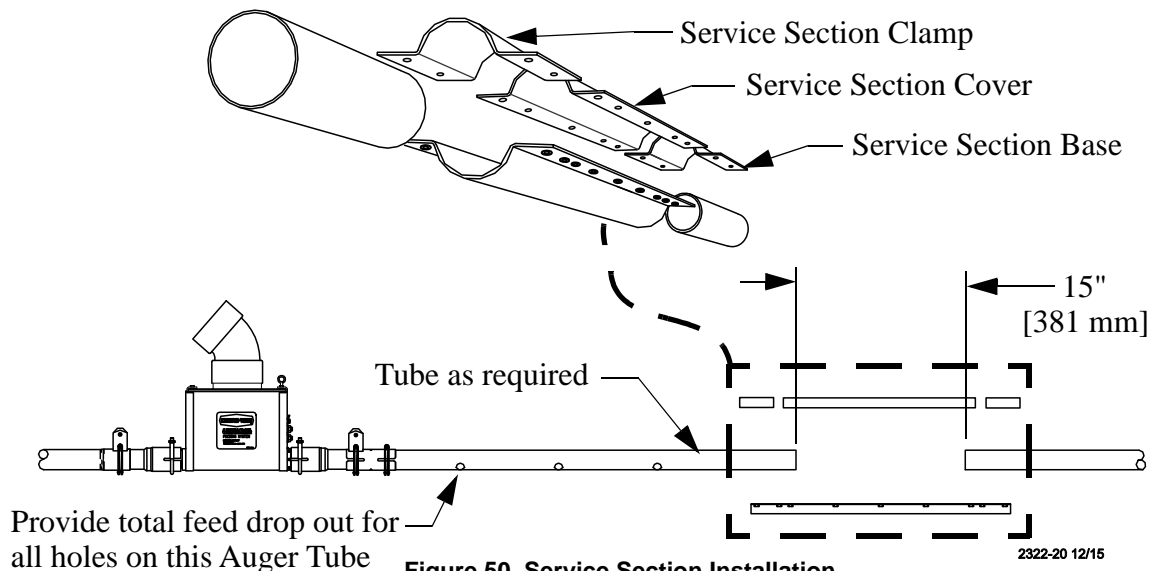

Figure 50. Service Section Installation
13. Install the service section as shown in **Figure 50**.